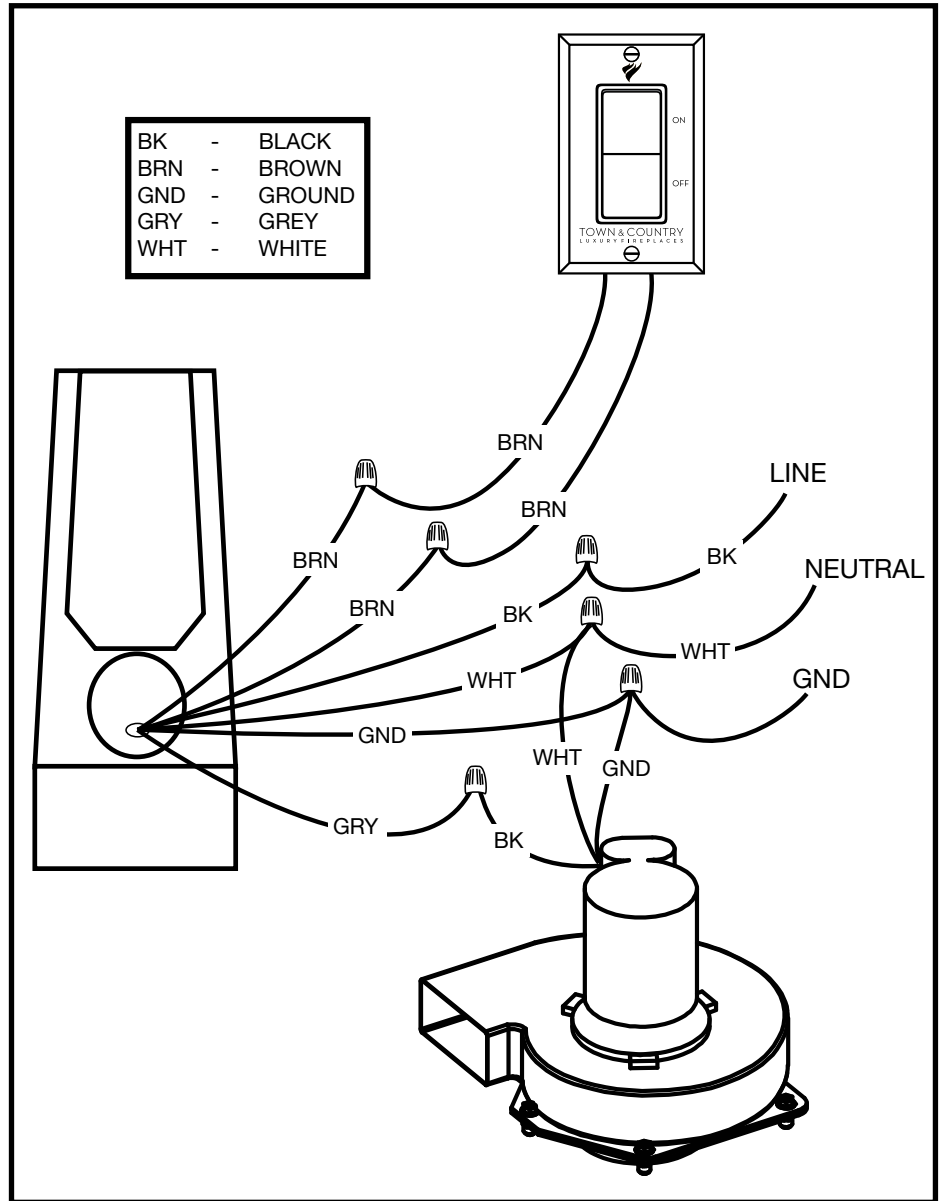

Figure 45: Wiring instructions.
- Connect electrical power supply to the black and white wires inside the electrical connections compartment as shown in Figure 45.
- Connect the ground wire to the green wire inside the compartment (Figure 45).